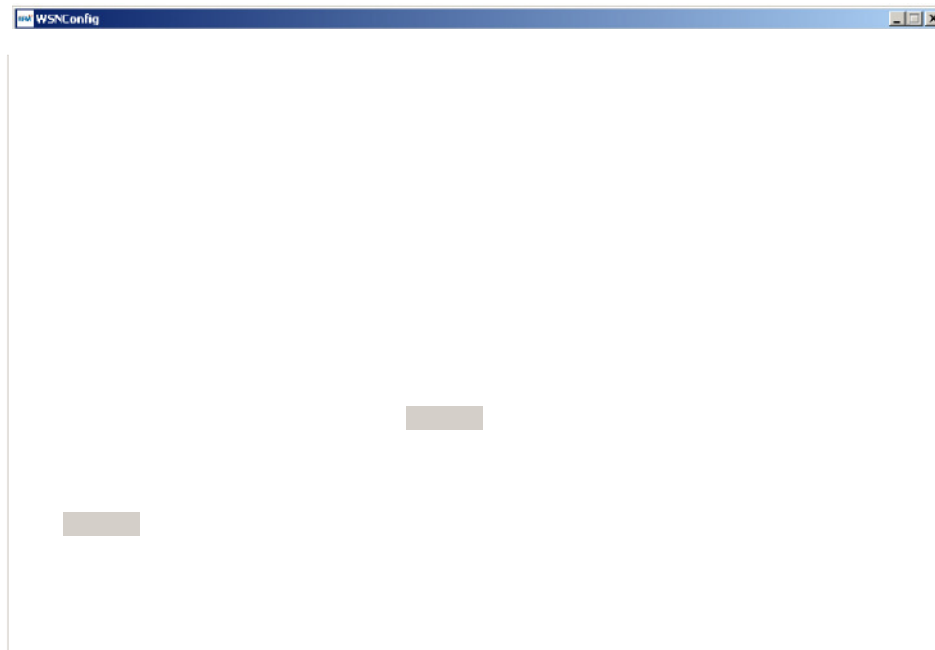

Figure 8.3.4
7. Select *Sensor Server IP Address* from the *Select Item* drop-down box on the WSNConfig.exe *Commission* tab. Enter the IP Address from the *PC Information* area in the *Item Value* text box. Then click the *Add/Update* button. See Figure 8.3.4. This action configures the WSN802G module to send its periodic I/O report data to the PC running WSNConfig.exe.